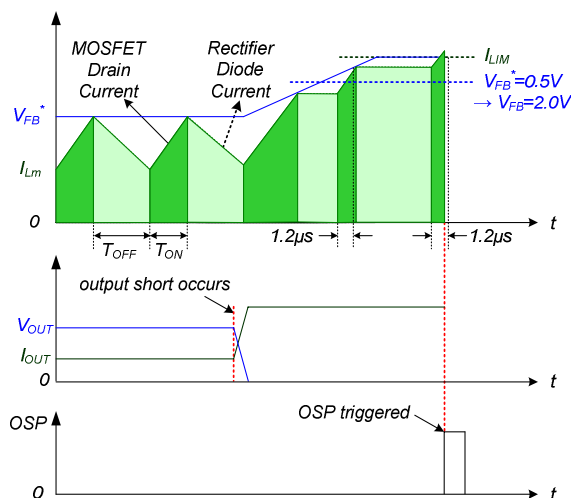

Figure 22. Output Short Protection
**4.3. Output Short Protection (OSP):** If the output is shorted, steep current with extremely high di/dt can flow through the SenseFET during the minimum turn-on time. Such a steep current brings high-voltage stress on drain of SenseFET when turned off. To protect the device from such an abnormal condition, OSP is included. It is comprised of detecting  $V_{FB}$  and SenseFET turn-on time. When the  $V_{FB}$  is higher than 2V and the SenseFET turn-on time is lower than  $1.2\mu s$ , the FSGM0565R recognizes this condition as an abnormal error and shuts down PWM switching until  $V_{CC}$  reaches  $V_{START}$  again. An abnormal condition output short is shown in Figure 22.